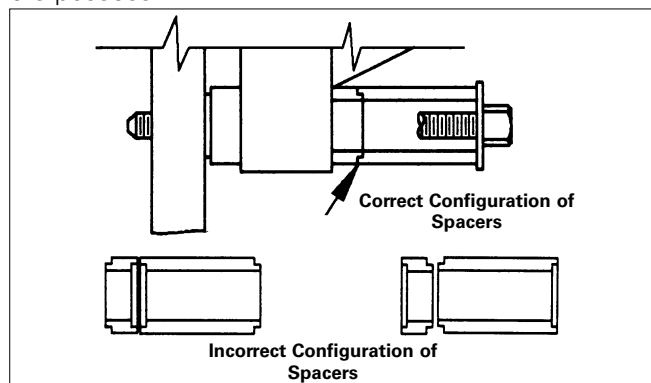

Figure 7
**Note:** When using more than one spacer, care should be taken to use the tongue and groove configuration to prevent misalignment, Fig. 7. If the small 1/8" spacer is required, it should be placed on the caliper bolt last since it does not have the counter-bore the other spacers possess.